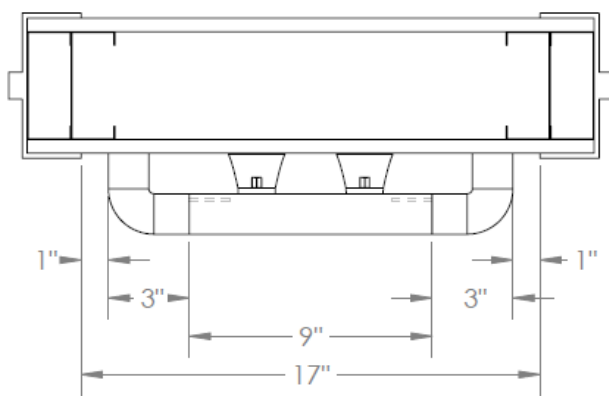
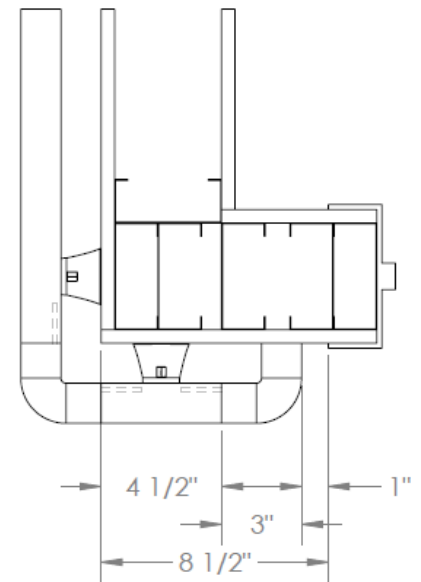

Figure 1
Figure 3
Install the longest run of the handrail first, use scrap for shorter runs. The handrail requires a minimum of 2 standoffs per unit/run. The minimum distance of a straight run for this handrail is 17" (see Figure 1). The minimum distance from a corner to an end cap for this handrail is 8-1/2" (see Figure 3).
**STEP 2.** Layout the handrail runs, marking the location of each standoff along the chalk or laser line. There must be a standoff located 6" from the start and the end of each run. Standoffs must be located 6" from all outside corners and 10" from all inside corners. The remaining standoffs are to be spaced a maximum of 32" O.C.. Make sure there is an equal distance on both ends of the handrail run from door jambs and windows (see Figures 1, & 3).